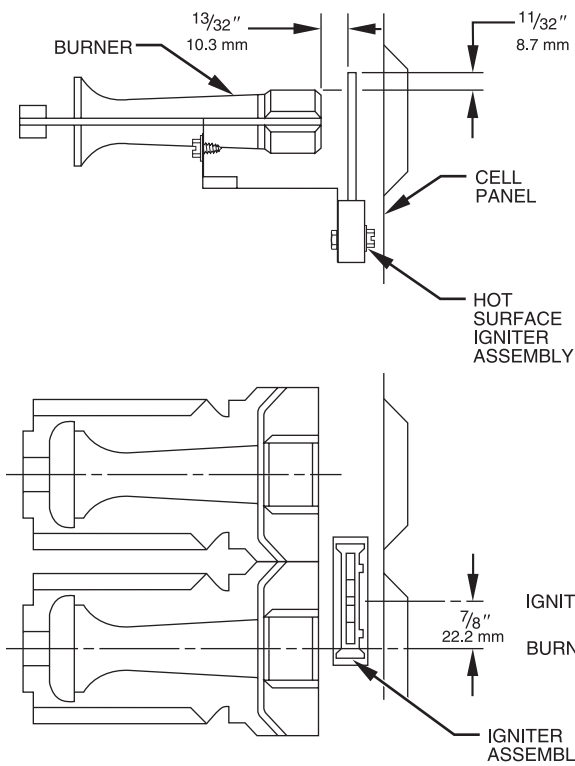

Fig. 25 - Igniter to Burner
- d. Reattach HSI wires to HSI. Verify Igniter to Burner alignment. For Silicon Nitride igniters, See Fig. 23 and 24. For Silicon Carbide igniters, See Fig. 25.